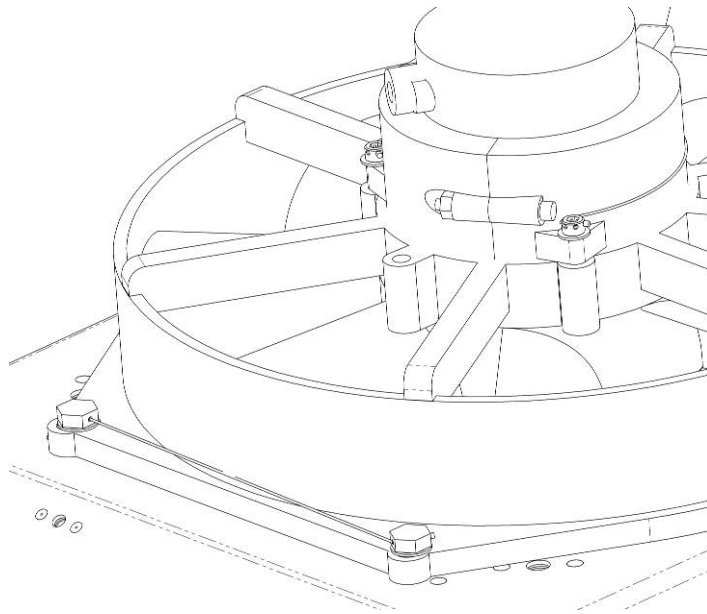

Figure 5: Condenser blower locking cable/wire
- 2) Locate the four fasteners connecting the condenser blower fan to the condenser blower assembly. Verify the locking cable or wire is taut and properly secured. The locking cable or wire must be secured to the fasteners as shown in Figure 5.